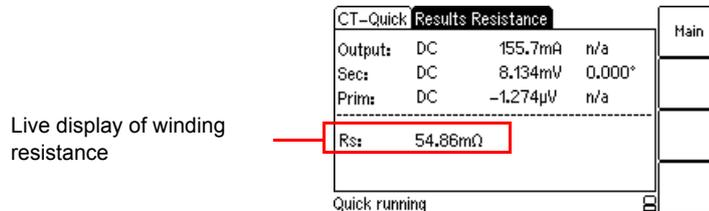

Figure 8-18 Results test card for VT winding resistance measurement
4. Start the measurement by pressing the **I/O** key on the *CT Analyzer* or clicking the **ON** button on the **Resistance** tab of the *CTA QuickTest* software. The measured values are displayed and permanently updated as long as the measurement is active. Refer to Figure 8-18.